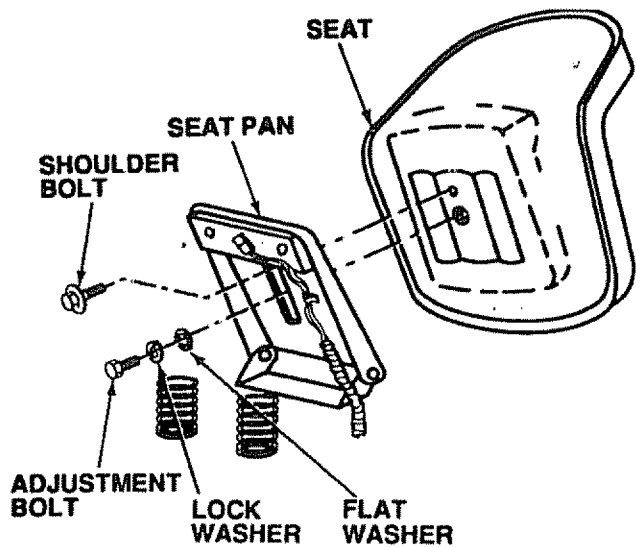

FIGURE 3
- b. Place seat on seat pan. Screw adjustment bolt, lock washer and flat washer into seat (Fig. 3). Screw shoulder bolt into seat (Fig. 3). Adjustment bolt, shoulder bolt and washers found in bag of parts (shown full size on page 6).
- a. Lift seat (Fig. 3).